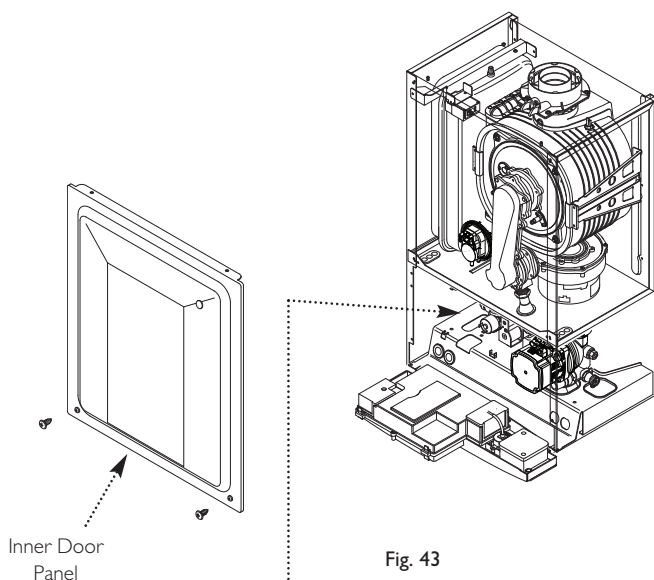

Fig. 43
4. Remove the screws securing the inner door panel. Lift the panel slightly to disengage it from the studs on top of the case (Fig. 43).